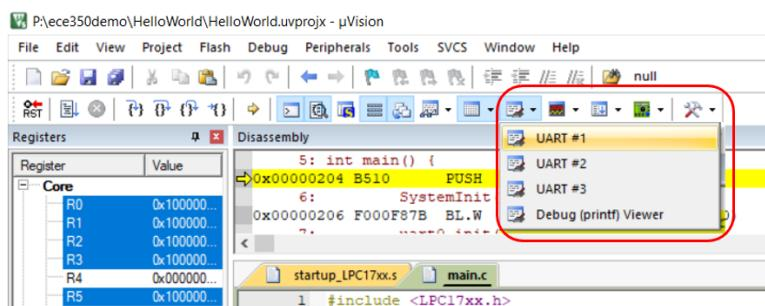
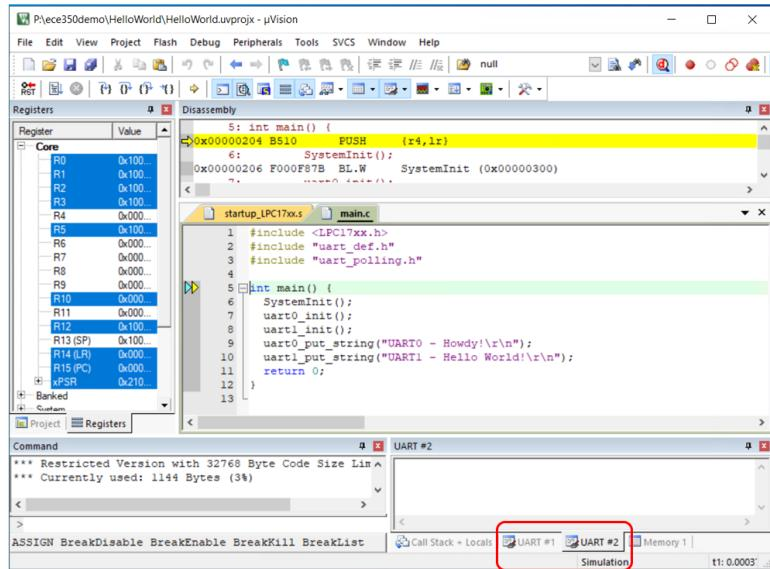

Figure 7.21: Keil IDE: Debugging. Enable Serial Window View.
Figure 7.22: Keil IDE: Debugging. Both UART0 and UART1 views are enabled on simulator.
3. Select UART1 and UART2 (see Figure 7.21) from the serial window drop down list so that they appear on simulator (see Figure 7.22). Note that the hardware UART index starts from 0 and the simulator UART index starts from 1. So the UART1 window on simulator is for the UART0 on the board. The UART2 window on simulator is for the UART1 on the board.